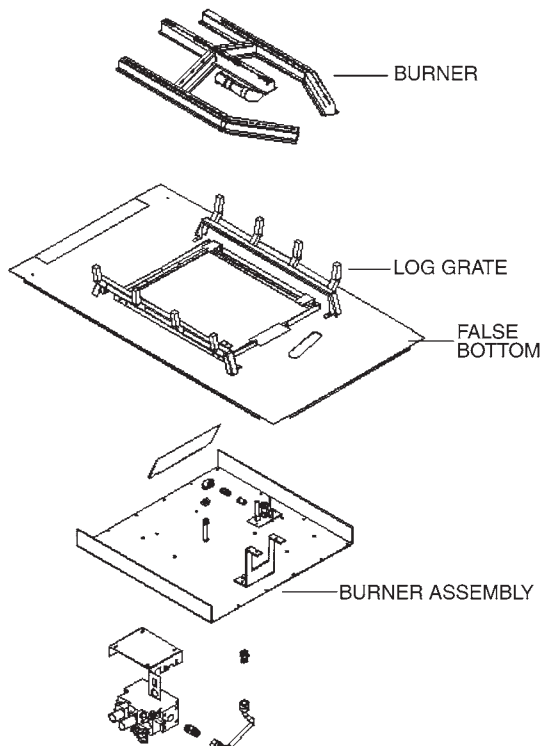

FIGURE 1
3. Remove screws from False Bottom and lift out of Firebox (See **Fig.1** below).
2. Remove doors. Remove end, back or side bricks, this depends on type of Fireplace installation. Remove all Crushed Rock and Glowing Embers. Vacuum inside of Fireplace for remaining dust particles. FIGURE 1.